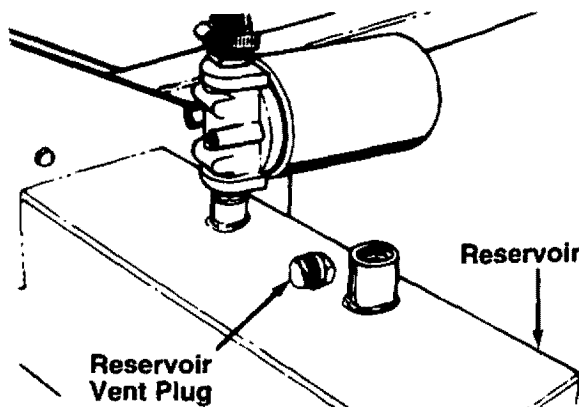

FIGURE 12.
- Remove the vent plug and **check the fluid level**. See figure 12. Fluid level should be 1-1/2" to 2" from the top of the tank.
- Remove reservoir vent plug. See figure 12. Using Dexron II automatic transmission fluid, fill reservoir to the top. Replace vent plug securely.